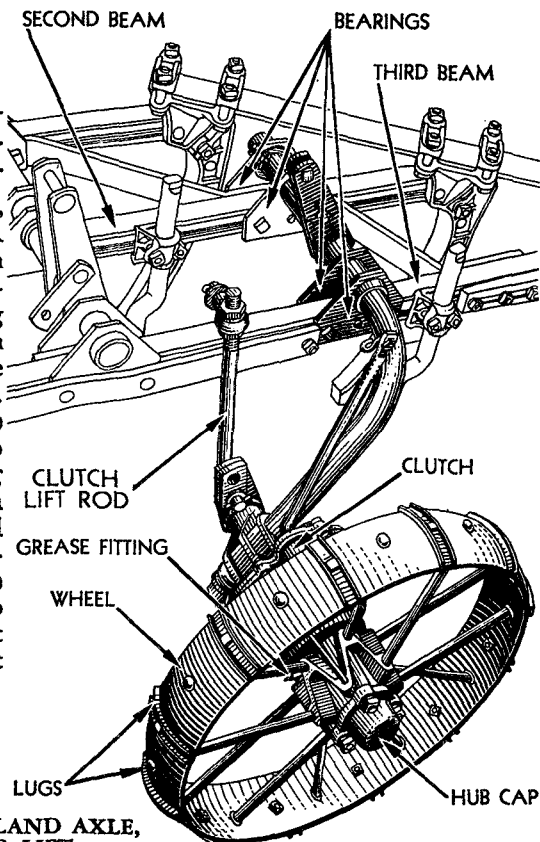

FIGURE 5—ASSEMBLING LAND AXLE, WHEEL AND POWER LIFT
4. LAND AXLE, WHEEL AND POWER LIFT.—(Figure 5.) Attach land axle and wheel assembly by first inserting the end of axle through the axle bearings that are attached to the second beam. **IMPORTANT:** Remove hub cap in order to observe grease being forced out through bearing on outer end of axle while being applied through grease fitting. Use No. 3 Cup Grease or equivalent. Bolt hub cap on the wheel. Bolt lugs to wheels.